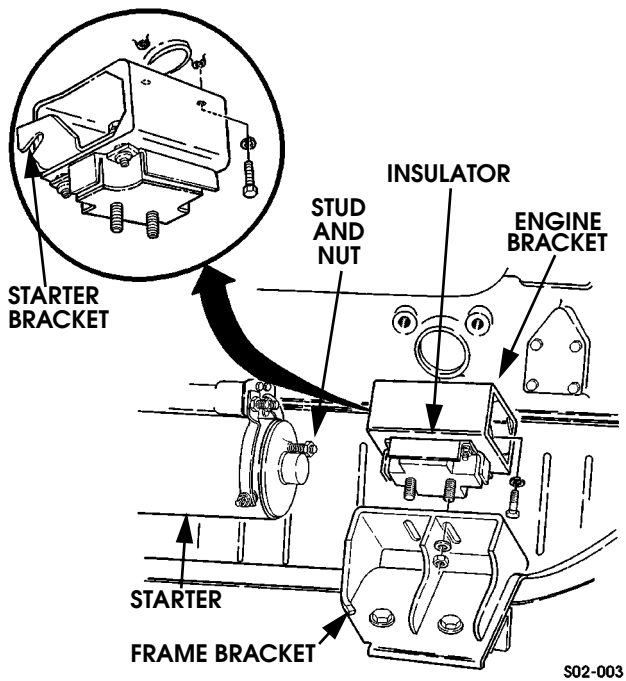

Figure 2-14: Engine Mounting Bracket and Insulator (Driver Side)
11. Remove nut securing engine bracket to stud on starter motor (Figure 2-14).
12. Raise engine enough to remove insulator, or bracket (Figure 2-14).
3. Install nut that secures engine bracket to stud on starter motor (Figure 2-14). Tighten nut to 24 lb-ft (33 N•m) torque.